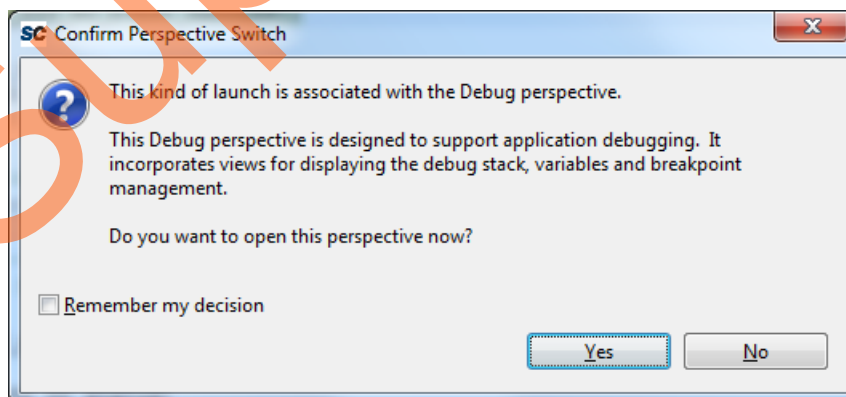

Figure 37 • Confirm Perspective Switch
11. Click **Yes** when prompted for the **Confirm Perspective Switch**, as shown in Figure 37. This displays the debug view mode.